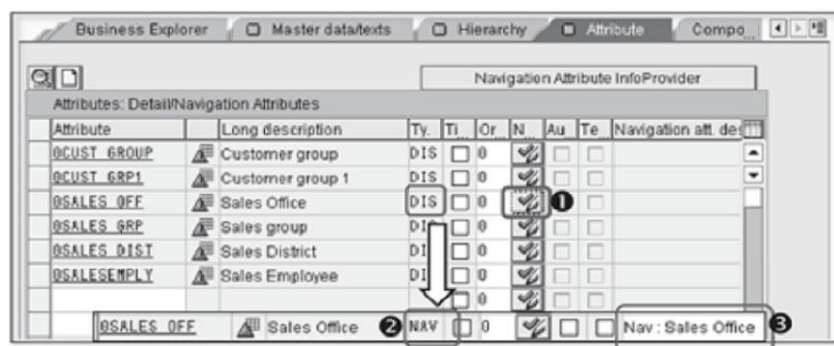

Figure 3.27 Defining Attributes
When you enter your attributes, they are automatically defined as display attributes. To change this, click the Navigational Attribute On/Off icon (❶ of Figure 3.27) for the appropriate attribute.
For our case study, we define `0SALES_OFF` as a navigational attribute. When you assign this definition, SAP NetWeaver BW offers you a field for a description of the navigational attribute (③ of Figure 3.27); you should always fill this out because it helps query designers distinguish whether the InfoObject is being used as a navigational attribute or a characteristic.